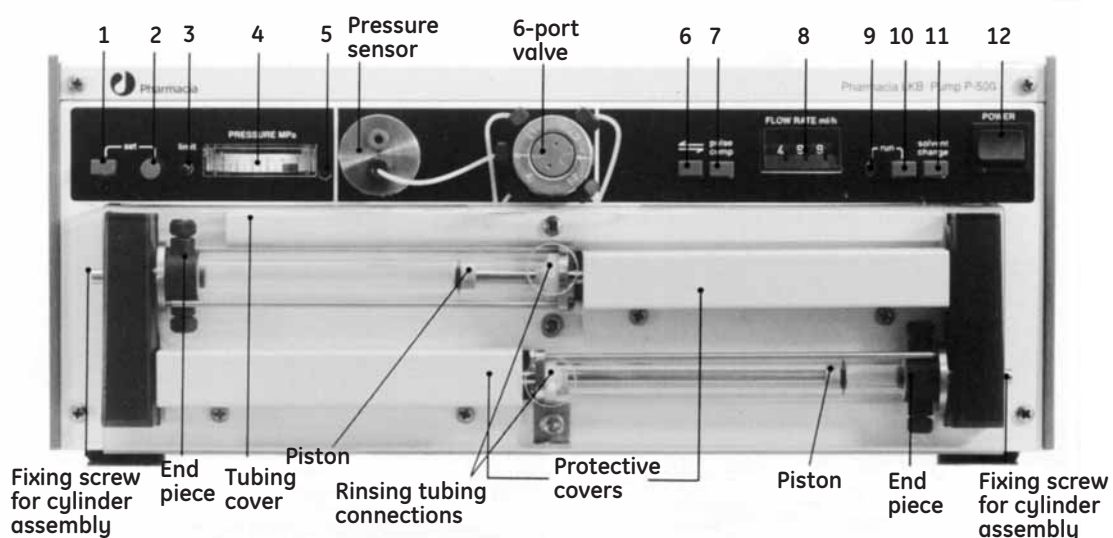
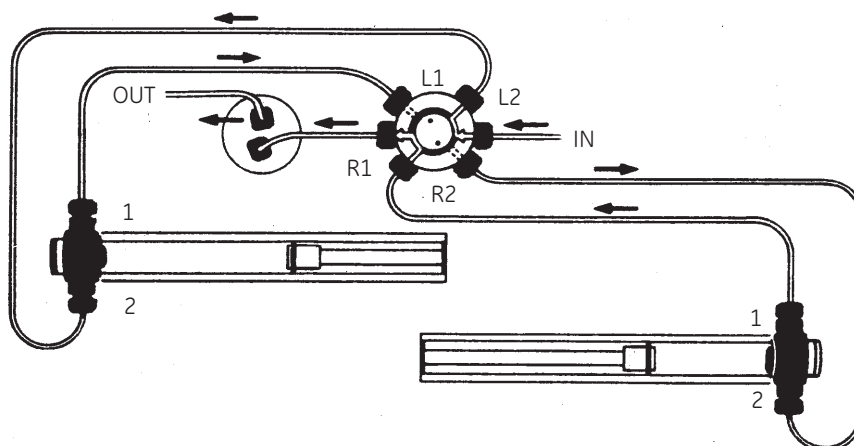

Fig 1. Pump P-500 front panel.
Fig 3. General flow diagram.
Please refer to figure 1.
Pumping action is provided by a stepper motor, through a gear box and a ball screw, to two alternating pistons mounted on the front panel (Fig 1). The driving mechanism is located behind the front panel. The pistons reciprocate in two high precision glass cylinders. The pistons are driven such that one piston draws in solvent while the other is expelling solvent. The change of piston direction is controlled by opto-electronic switches at the end positions. These switches also control valve movement.
The six-port valve (Fig 1) is a motorized rotary valve driven by a DC-motor through a gear box. The function of the valve is to control the solvent flow to and from the pistons. The valve has six tubing connections. These tubing connections and the general flow diagram are shown in figure 3. All connections except the two labelled IN and OUT are already fitted.
The pressure sensor (Fig 1) is a strain gauge bridge type which determines the back pressure in the system. The pressure sensor consists of a diaphragm which contracts or expands with pressure changes causing the resistance in an electronic bridge to change. This gives a signal proportional to the back pressure. The signal is then amplified and relayed to the pressure meter (front panel) and the pressure output (rear panel). The pressure sensor has two main functions, the first to continuously measure the operating pressure and the second to sense excessive pressure which could damage the columns. If the pressure builds up to the limit set on the SET control, the pump automatically shuts down and the red LIMIT lamp lights. Detailed instructions for setting the pressure limit and for the connection of a recorder to the pressure output are given in Section "6.3. Pressure limit control".
The rinsing tubing has a dimension of 3.1 x 1.1 mm. Cut two pieces of the rinsing tube supplied to a sufficient length to reach the bottom of a rinsing solution bottle and connect them to the rinsing tubing connections (Fig 1).
The internal tubings in the pump shown in figure 3 have a dimension of 1.8 x 0.8 mm.
1. Check that the power switch (Fig 1) is set to "OFF" and plug the mains cable into the mains inlet.
5. Check that the button RUN (Fig 1) is released, the pump is in standby position and turn power switch to ON.
6. Set the pressure limit to 4.5 MPa (45 bar) by fully pressing the button SET (Fig 1) and simultaneously turning the potentiometer SET (Fig 1) clockwise. Read the value from the pressure meter.
7. Start the wash program by pressing the button SOLVENT CHANGE (Fig 1) and the button RUN.